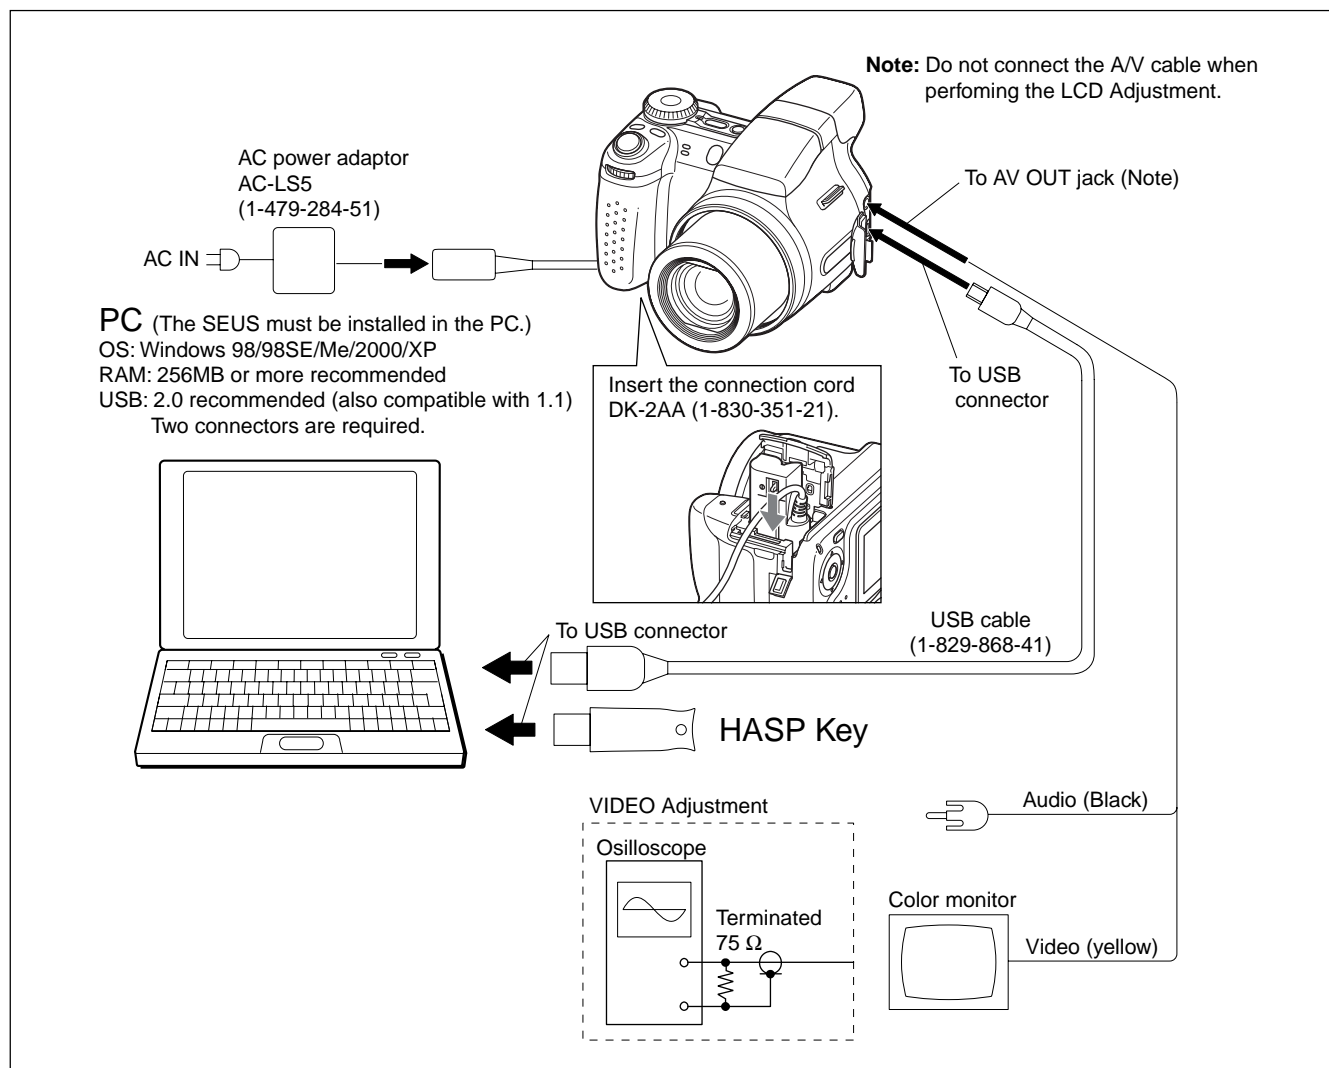

Fig. 6-1-4
- 1) Connect the equipment for adjustments according to Fig. 6-1-4.